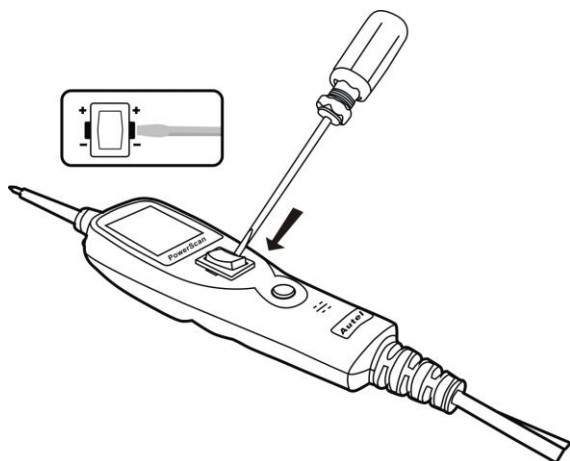

Figure 15
- Remove the worn switch with a pry tool. Be careful when applying force. (Figure 15)